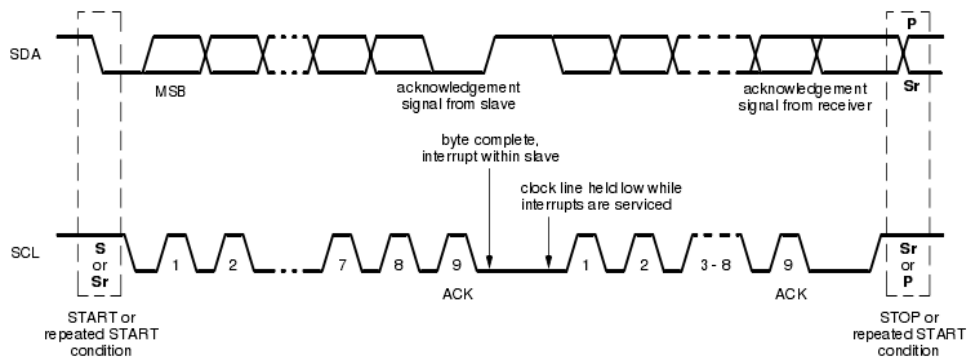

Figure 8: Data Transfer I2C bus
7), the last transmission is lowest (LSB, bit 0). Also must be followed by an acknowledge bit after each byte (ACK). C transmission data shown in Figure 8.